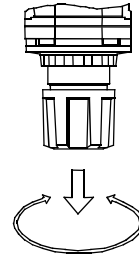

Fig.1
- 1) Pull down knob and rotate it after confirming not locked. (Refer to Fig.1)